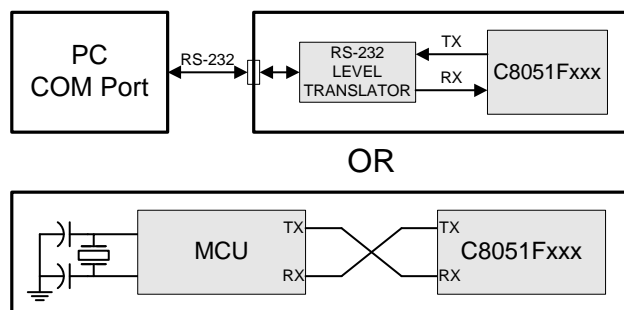

Figure 13.5. Typical UART Interconnect Diagram
In typical UART communications, The transmit (TX) output of one device is connected to the receive (RX) input of the other device, either directly or through a bus transceiver, as shown in Figure 13.5.